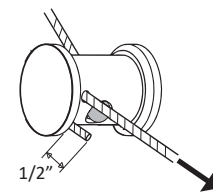

Fig. 5b
7. Thread the cable back through the second hole (**Fig 6a**), leaving only a small amount sticking out (approximately 1/2") and pull the cable tight until the cable cinches in the groove between the two small holes (**Fig. 5b**).